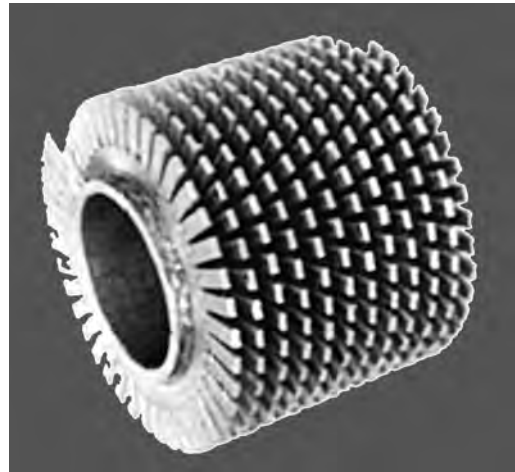

FIGURE 13.7 Serrated fins.
- A serrated fin (Figure 13.7) is formed by partially splitting the metal strip before winding it around the tube.